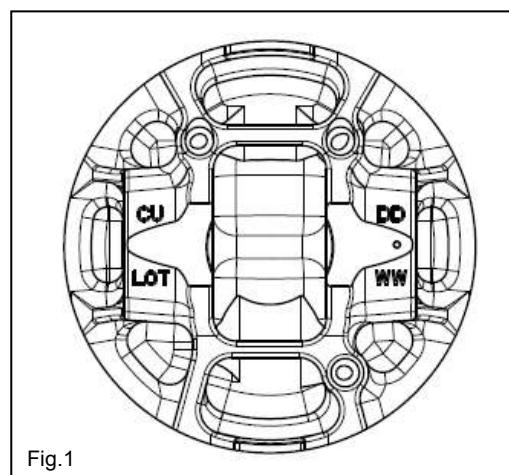

Fig.1
- 2.1 Confirm the O.D. of the piston skirt on the back of the piston. The diameter is between 87.450 to 87.460 mm. The last 2 numbers of the 3 digits after the decimal point are shown on the back of the piston. (e.g.: If the O.D. is 87.455 mm, "55" is shown on the back of the piston.) (See the figure1)